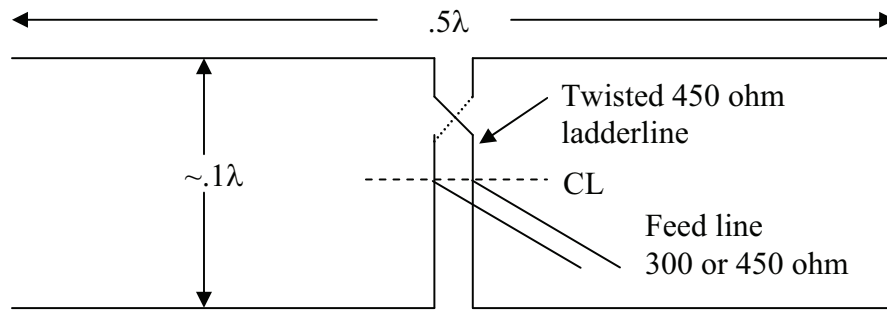

Figure 1. Classic W8JK array with $.5\lambda$ elements
One of the antenna designs I started modeling (using EZNEC) was a W8JK array using 20M $.5\lambda$ dipoles. The W8JK (John Kraus - sk) 2-element array (1) is a venerable design dating back to the '30s but has appeared in every Antenna Handbook (3) since then and has even appeared in QST (2) in recent years. The classic '8JK array consists of 2 $\sim.5\lambda$ dipoles at the lowest operating frequency closely spaced ($\sim.1\lambda$) with a phasing line (often 450 ohm ladder line) connecting the feedpoints. This phasing line is twisted to impart a 180 phase shift between the elements. The antenna is fed at the midpoint of the phasing line – see figure 1. In Kraus' day these arrays were fed with open wire feeders so multiband operation was readily possible. An array designed for 40M could be used on 20M and 10M (no 12/15/17/30M available in that day). The gain was slightly higher on the higher bands due to the longer effective length. The radiation pattern was bidirectional – a narrow figure 8 and nearly 6dbi could be expected on the lowest frequency. Of course, a balanced tuner was required to match the open-wire feedline to the transmitter.